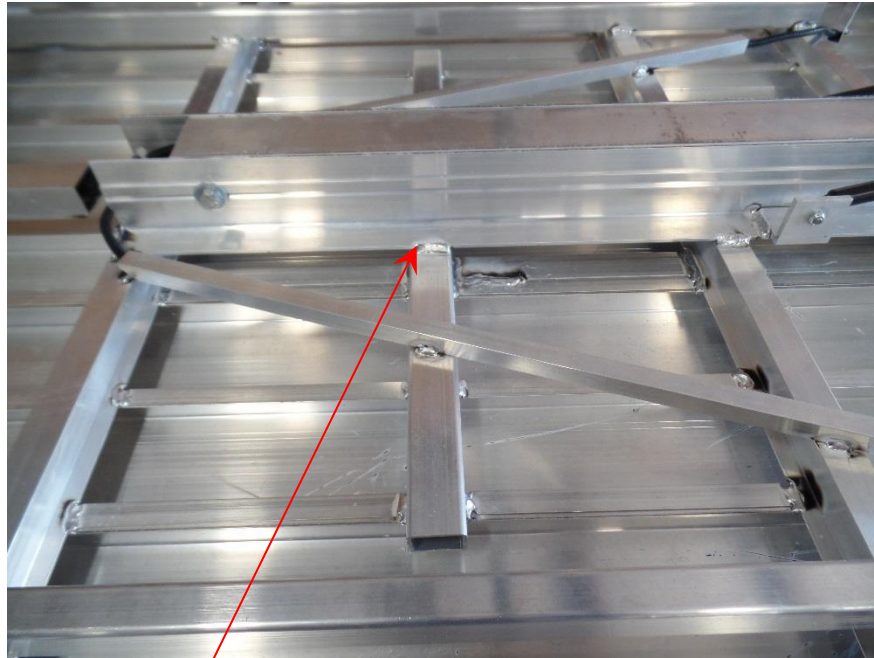

Figure 1
- 2.0 Inspect all welds and base material on tongue retainer and trailer frame to ensure no signs of damage has occurred. See Figure 1, 2 and 3. Prepare surface areas that are to be welded. Person performing retrofit should be qualified and proficient aluminum welder. **Caution:** Use appropriate PPEs when preparing surface and welding.